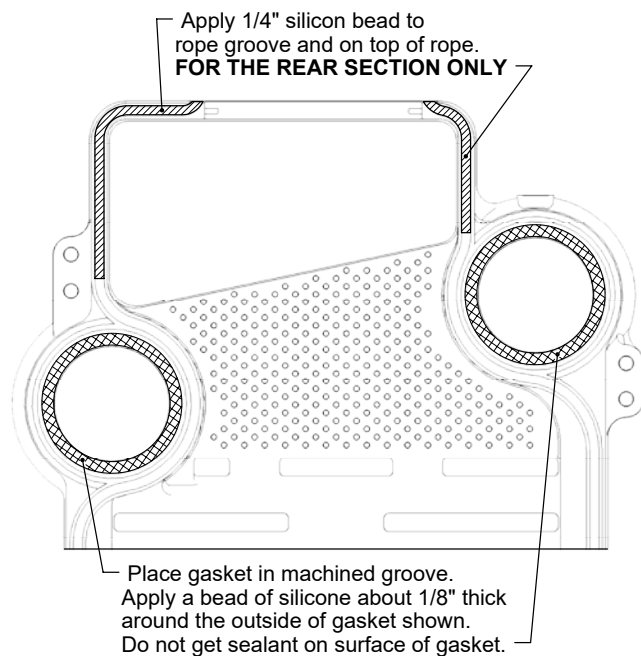

Figure 2.3: Apply Silicone Sealant
9. Apply a bead of silicone sealant around each flow port as shown in Figure 2.3. Do not get sealant on the flow port gaskets.